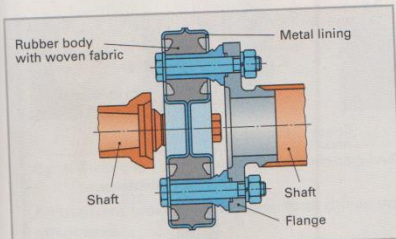

Fig. 2: Silentbloc joint
**Silentbloc joints (Fig. 2).** Several silentblocs (e.g. 6), consisting of rubber bodies with sleeve inserts, are combined in a metal jacket and bolted on both sides to three-arm flanges. Depending on the propeller shaft connection, the centre section can be floating or centred.